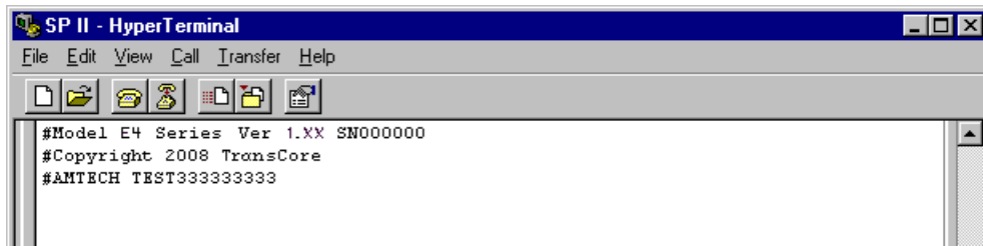

Figure 8–7 Successful Tag Read
2. Pass one test tag in front of the active MPRX antenna. If the MPRX reads the tag, the terminal emulation application displays the tag information on the screen as shown in Figure 8–7.